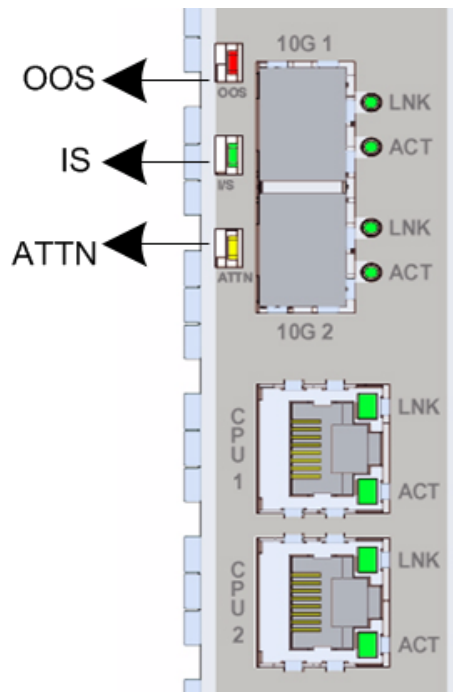

Figure 2-9: Front Panel LEDs
As shown in Figure 2-9 "Front Panel LEDs", the front panel provides three working status indicator LEDs which are defined in accordance with ATCA standards as Out of Service (OOS), In Service (IS), and Attention (ATTN).